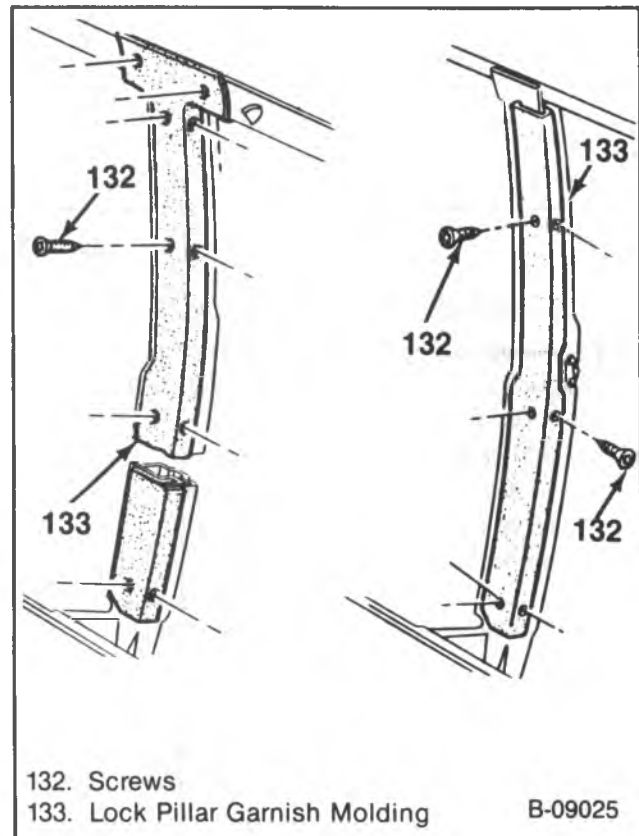

Figure 45 — Lock Pillar Garnish Molding
1. Lock pillar garnish molding screws and the lock pillar garnish molding (figure 45).
14. Lock pillar garnish molding and screws (figure 45).